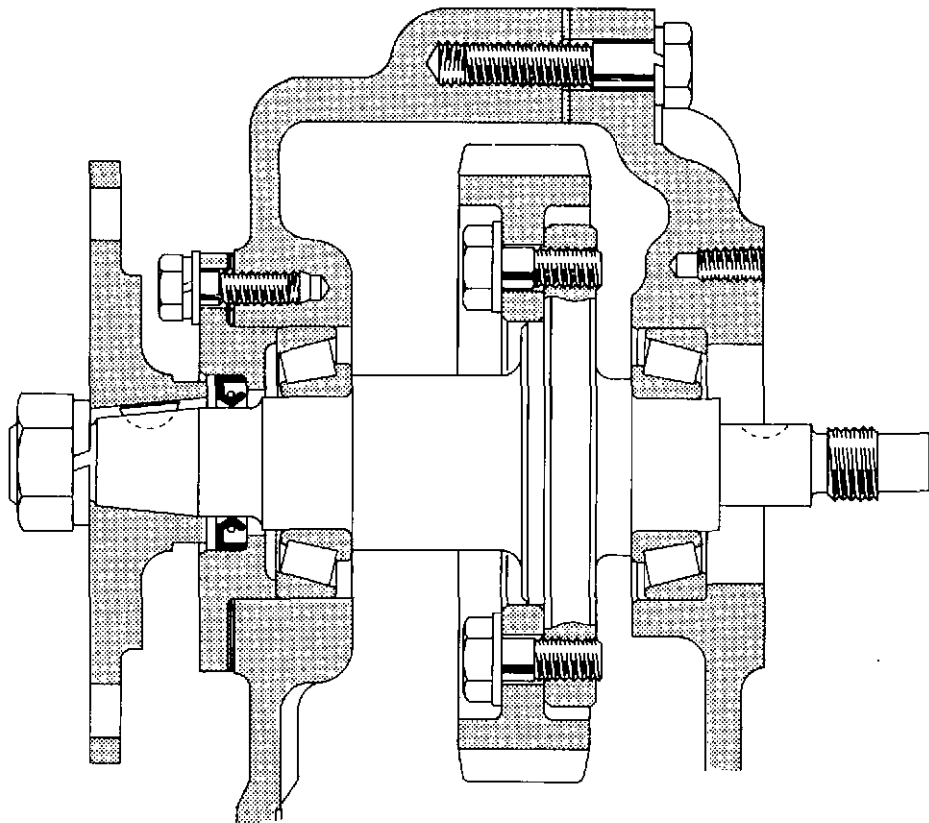

Fig. 2 Auxiliary drive assembly
- 7 Unscrew the drive flange retaining nut from the inner end of the auxiliary drive shaft (fig. 2), remove the plain washer and, using the Puller, GA 5090, and two Bolts, GA 5090-2, withdraw the flange; lift out the Woodruff key.